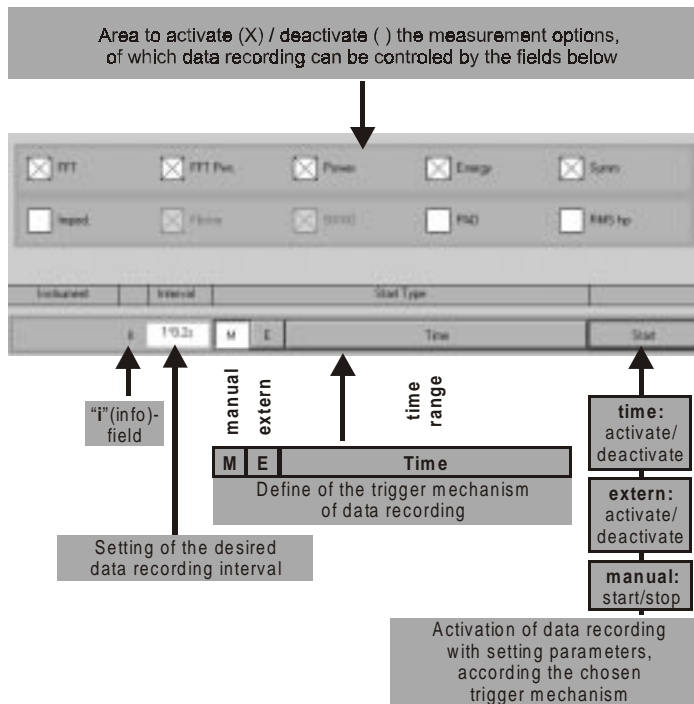
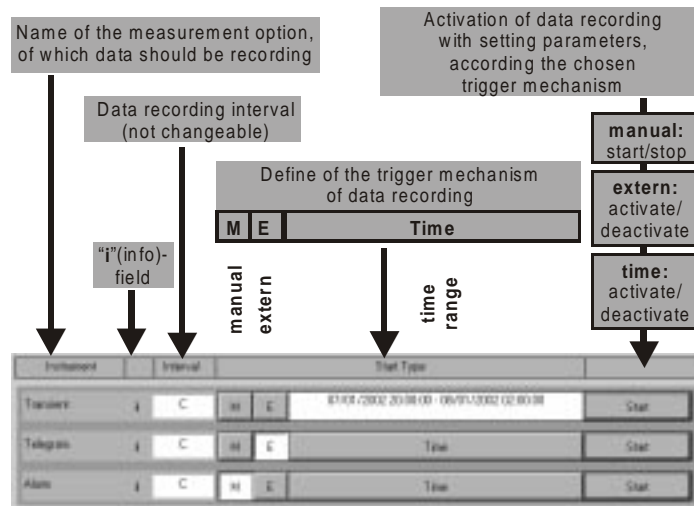

Figure 9-26:
Figure 9-27:
Figure 9-26 and Figure 9-27 show an overview of the setting options and fields in the window:
- **Activation of the measurement options** in the groups of fields in the upper display area (Figure 9-26):